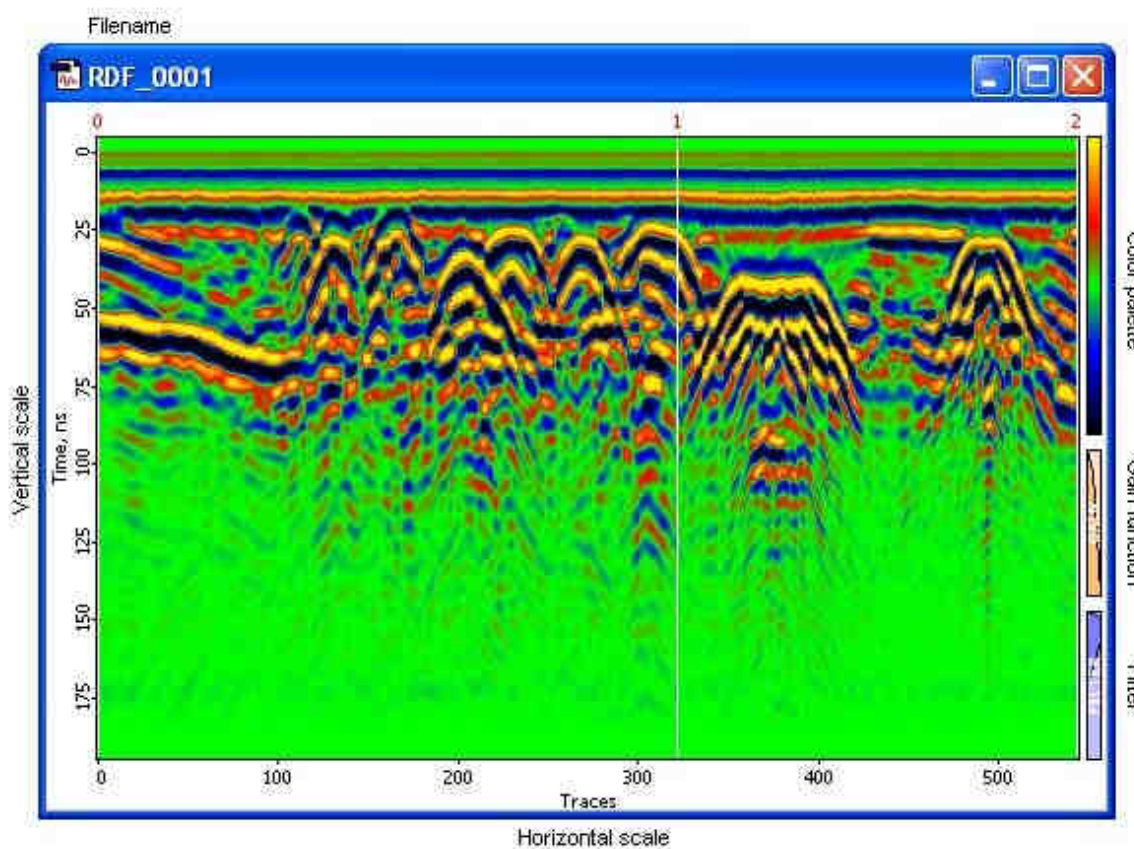

Fig. 10.1. Profile Output working window.
Load a sounding data file, and have it displayed on the screen by using option **File/Open**. By default, the routine will display data as a line scan profile (Fig. 10.1) in a separate window with standard Windows attributes in the right-hand upper corner. The file name will be shown in the left-hand upper corner. The window may be drawn across the screen, and its size modified, using standard Windows means and ways. The number of profiles to be displayed in the screen shall be unlimited. By default, they will be arranged in a cascaded pattern; you may also choose their layout patterns at your discretion in option **Window** of the Main menu (see Subsection 7.6).
-  **Color palette** – changing data display color scale. This option presents one of the most distinctive advantages of “**Prism2**”. In “**Prism2**”, it is feasible to operate the entire color palette available in Windows. Color scale will characterize the type of profile’s line scan (Fig. 10.1), as well as the positive half-wave color when the wiggle plot profile is used (Fig. 4.2). You may use up to ten basic colors and their relative levels for the color scale. To change the color palette, you should call up the dialog window by pressing a respective Toolbar button or by selecting **Tools/Color palette** menu option, or by clicking the left mouse button on the color scale icon located at the upper right corner of the profile window. In appeared Palette color editing dialog box (Fig. 10.8), you may: